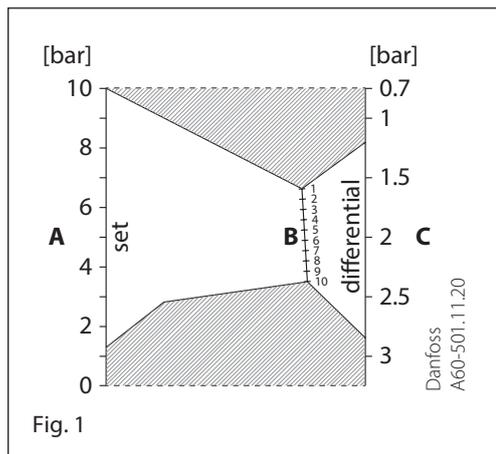

Fig. 1
When the pressure control cover is removed, and the locking screw (5) is loosened, the range can be set with the spindle (1) while at the same time the scale (2) is being read. In units having an adjustable differential, the spindle (3) must be used to make the adjustment. The differential obtained can be read direct on the scale (4) or, with types KPS 43, KPS 45, KPS 47, can be determined by reading the scale value and using the nomograms in figs. 1, 2, 3 (page 5). The working line for determining the differential must not intersect the shaded areas in the nomograms.